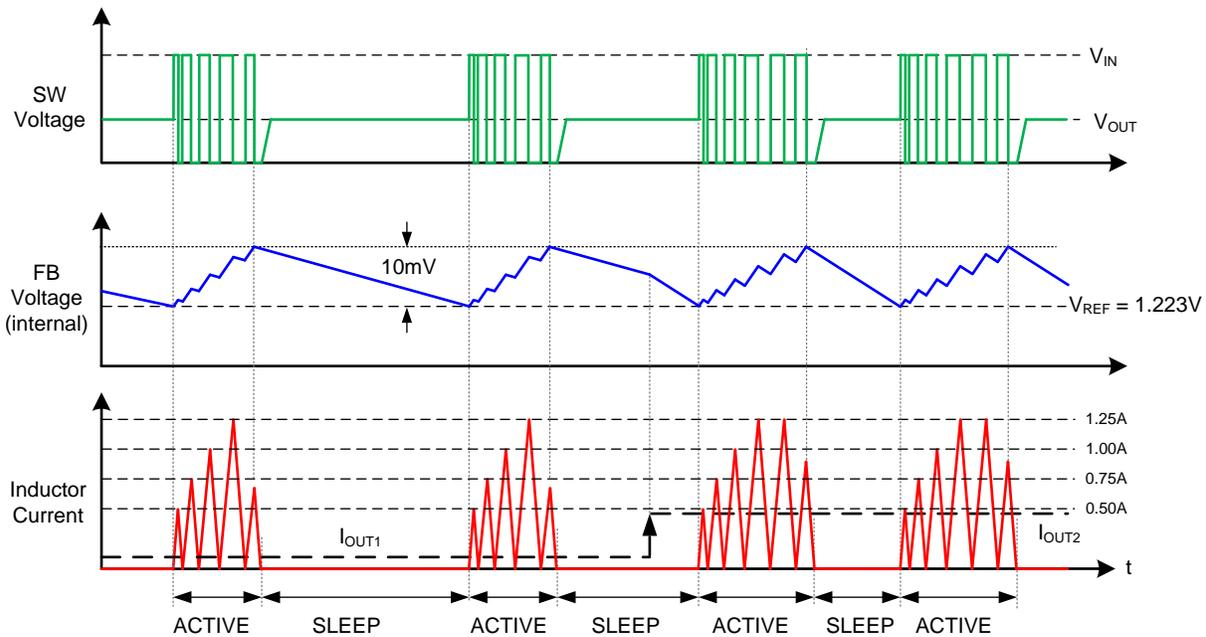

Figure 42. PFM Mode With Modulated I_{LIM} , Output Voltage and Inductor Current Representative Waveforms
One of the supported ILIM settings enables a function that modulates the peak current threshold levels during the first three switching cycles of each active period as illustrated in Figure 42. This function improves efficiency under most application conditions at the expense of slightly degraded load transient response.
- (1) For this current limit threshold selection, the ILIM pin may also be left open instead of using a 100-k Ω or greater resistor.
- (2) This I_{LIM} setting enables a function that modulates the I_{LIM} levels during the first three switching cycles as illustrated in Figure 42.